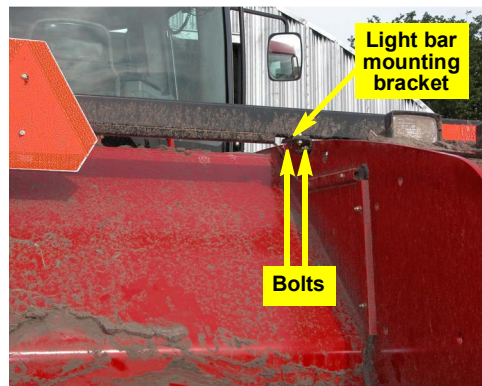

Figure 2a: Steering block mounting bracket location
- a. Locate the two bolts that hold the light bar mounting bracket on the right rear fender (Figure 2a) and remove them.